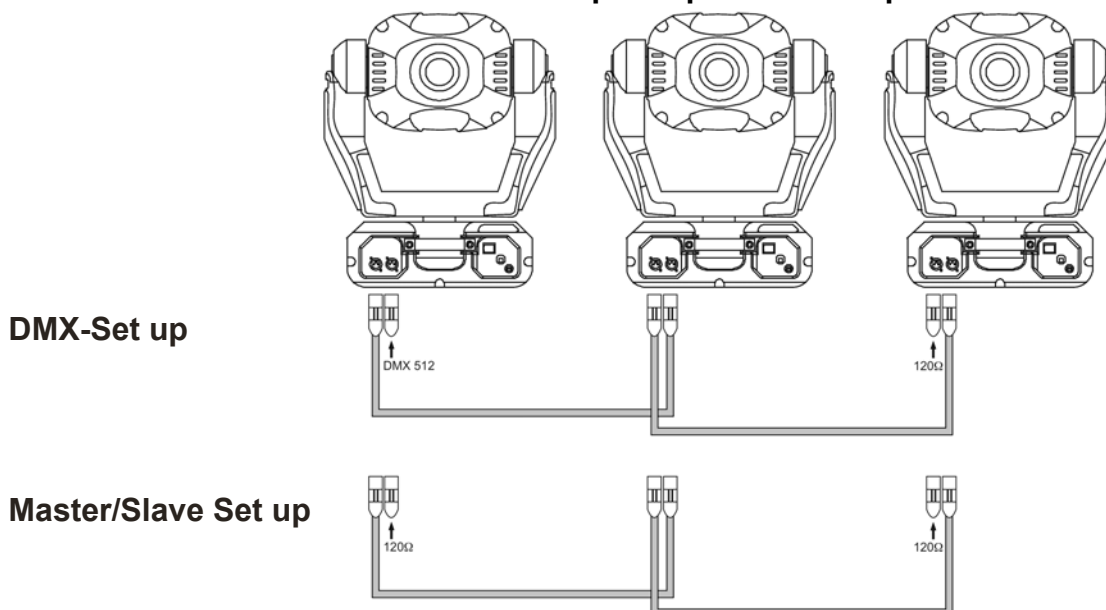

Fig. 6
4. Link the units as shown in (figure 6), Connect a DMX signal cable from the first unit's DMX "out" socket to the second unit's "in" socket. Repeat this process to link the second, third, and fourth units.